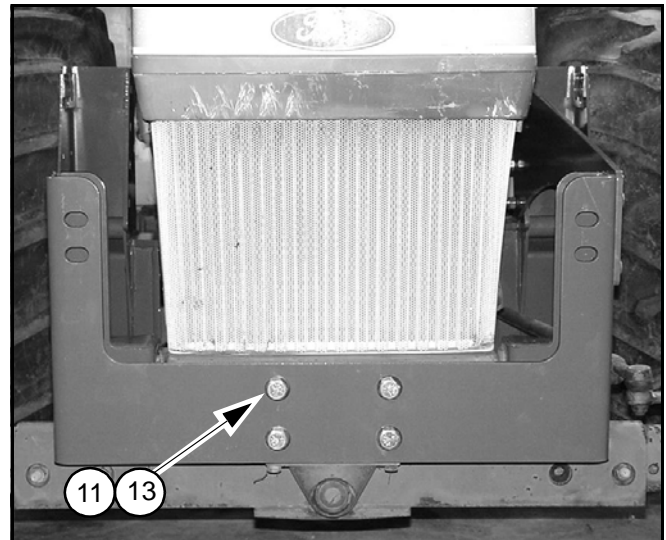

Figure 2 Front Support Installation
1. Attach front support to tractor, using cap screws (11) and hardened flat washers (13) as shown in Figure 2.